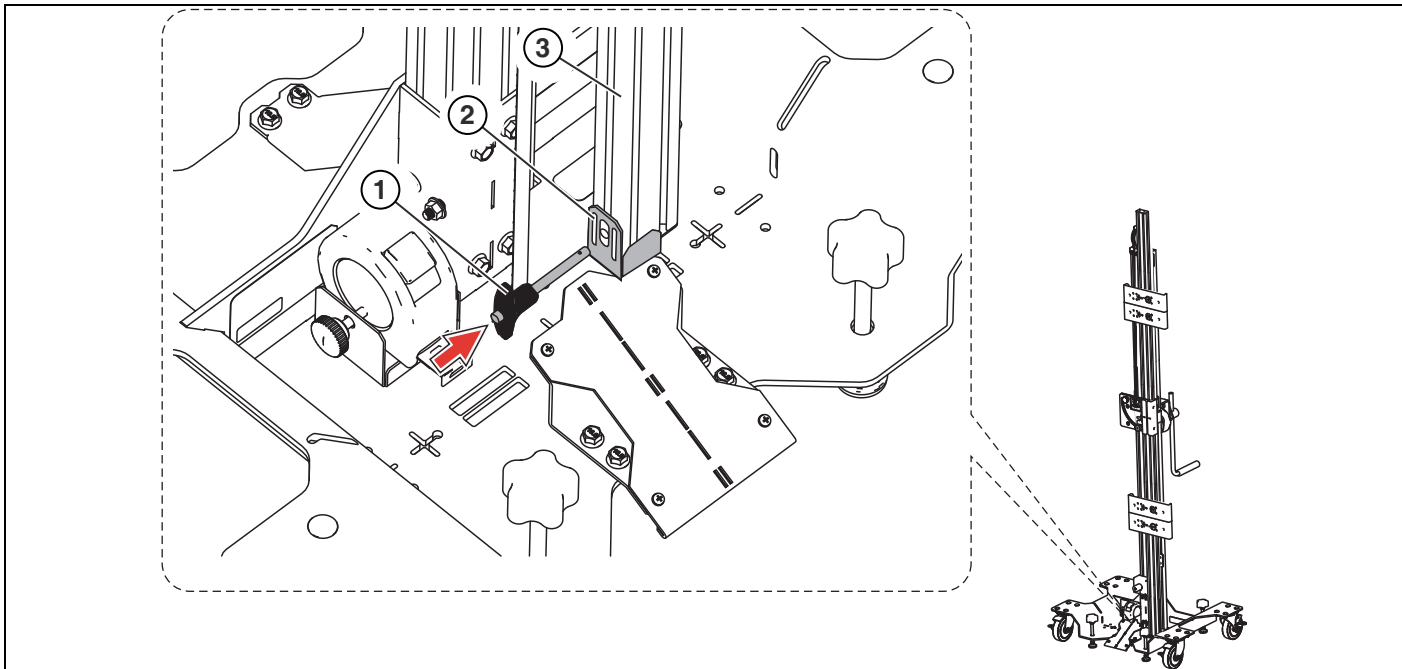

Figure 2-9
7. Using the clutch brake lift, lower the cross beam to fit the end of the cross beam into the bracket on the base (Figure 2-9). Manually guide the cross beam down into the bracket as needed.
8. Insert the storage pin (Figure 2-9 (1)) through the bracket (Figure 2-9 (2)) and cross beam (Figure 2-9 (3)) to secure the cross beam in the vertical position.